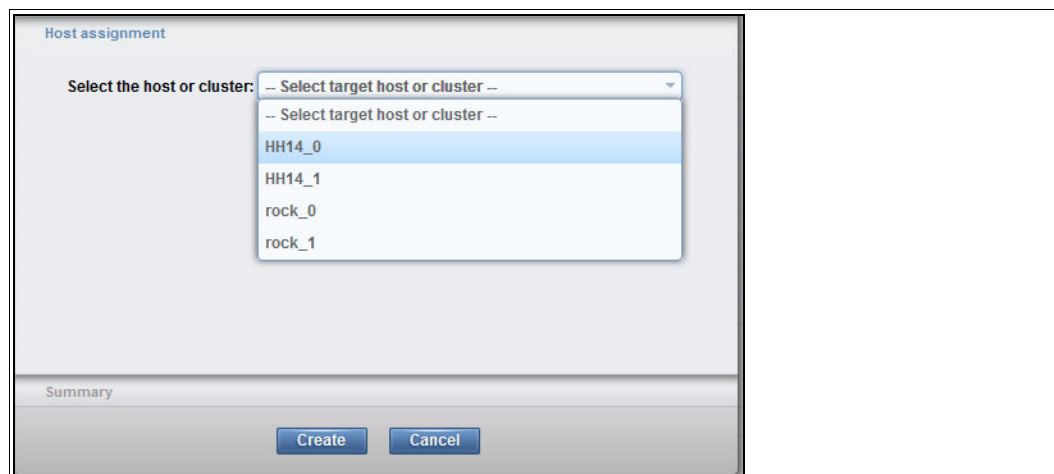

Figure 11-40 Advanced FB Volume by Volume Set Host Mapping
- In the Host Assignment section, select a host from the list to map the volumes to it. This is an enhancement with Release 8.2 of DS8880 microcode as shown in Figure 11-40.